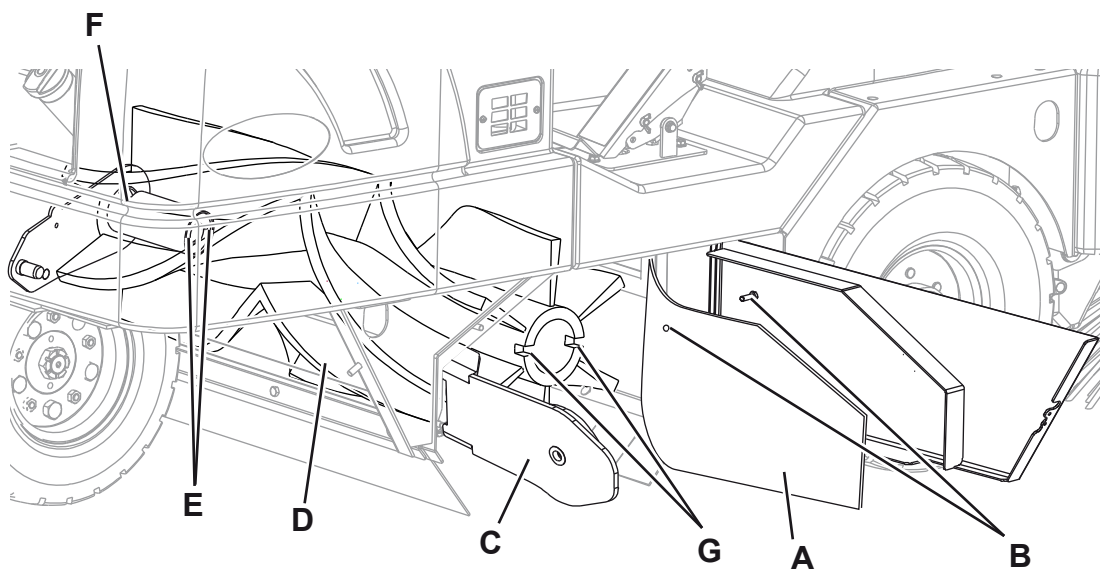

Figure 2
3. Turn the ignition key (65) and start the machine.
4. Lower the main broom with the lever (53).
5. Turn the ignition key (65) to "0" to stop the machine.
6. Open the right panel (18).
7. Move aside the right side skirt (A, Fig. 2) and fasten it with the pin (B).
8. Pivot the idler arm assembly (C) out of the main broom core (D).